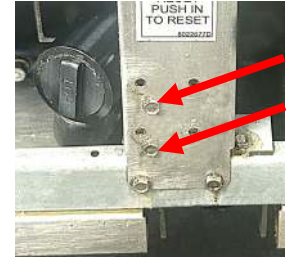

Figure 11
14. Position the pre-filter on the vertical frame and secure in place using the provided screws (see Figure 11).